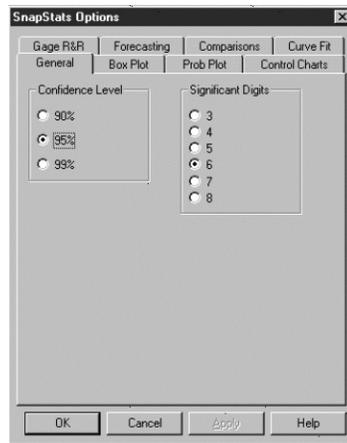

Figure 18-1. SnapStats Options Dialog Box
- **SnapStat Options** - the second button on the analysis toolbar allows you to set global preferences for your SnapStats. The first tab sets *General* options that apply to all SnapStats (see Figure 18-1).